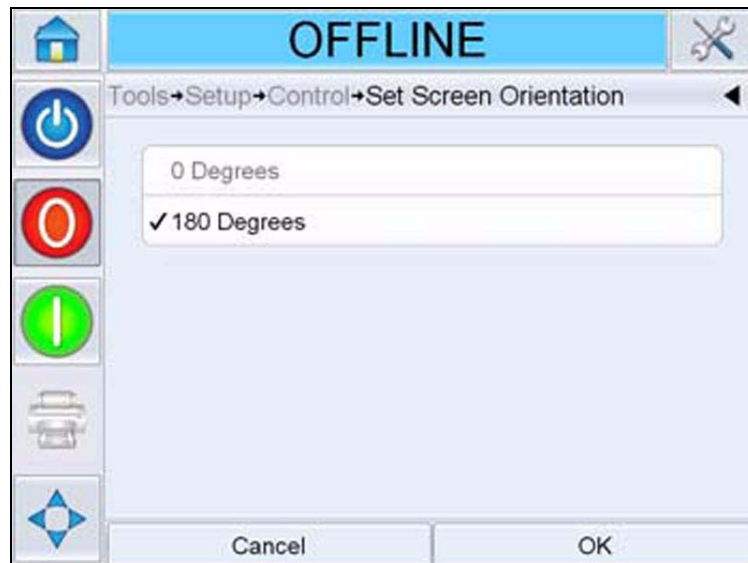

Figure 5-7: Screen Orientation
- 2 Touch *Set Screen Orientation* from the list. *Set Screen Orientation* page appears (Figure 5-7).